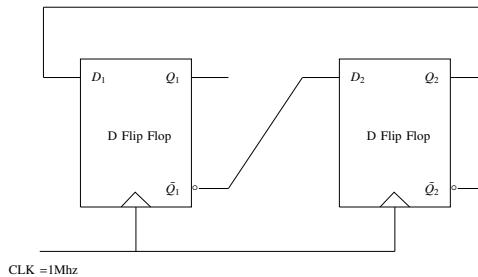

Fig. 5.7
7. In a given sequential circuit in Fig. 5.7, initial states are $Q_1 = 1$ and $Q_2 = 0$. For a clock frequency of $1MHz$, find the frequency of signal Q_2 in kHz (rounded off to the nearest integer). (GATE EC 2023)